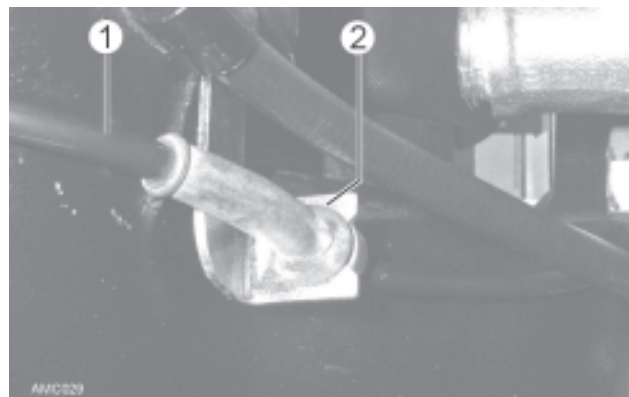

Fig. 45
10. Remove ABS sensor cable (Fig 45 - 1) from mount (Fig 45-2).